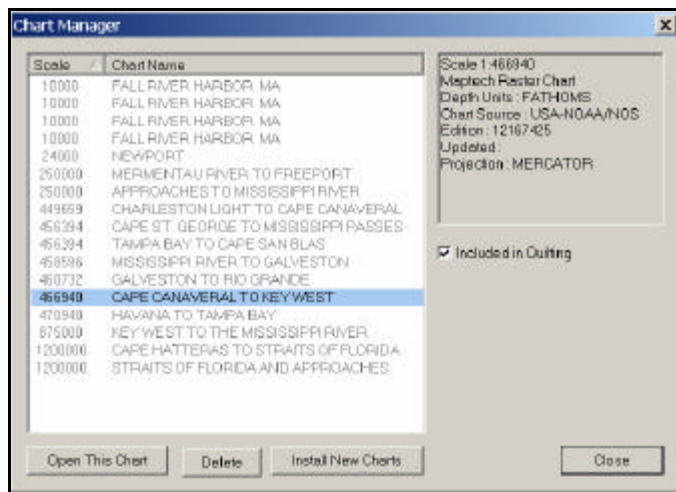

Figure 4-5. Chart Manager Screen 1 Showing Installed Charts
- Highlight the charts you want to install (or click **Select All** to install every chart), then click **Install Now**. The progress of each chart's installation is shown. When the charts have been installed, Chart Manager screen 1 is redisplayed (Figure 4-5).